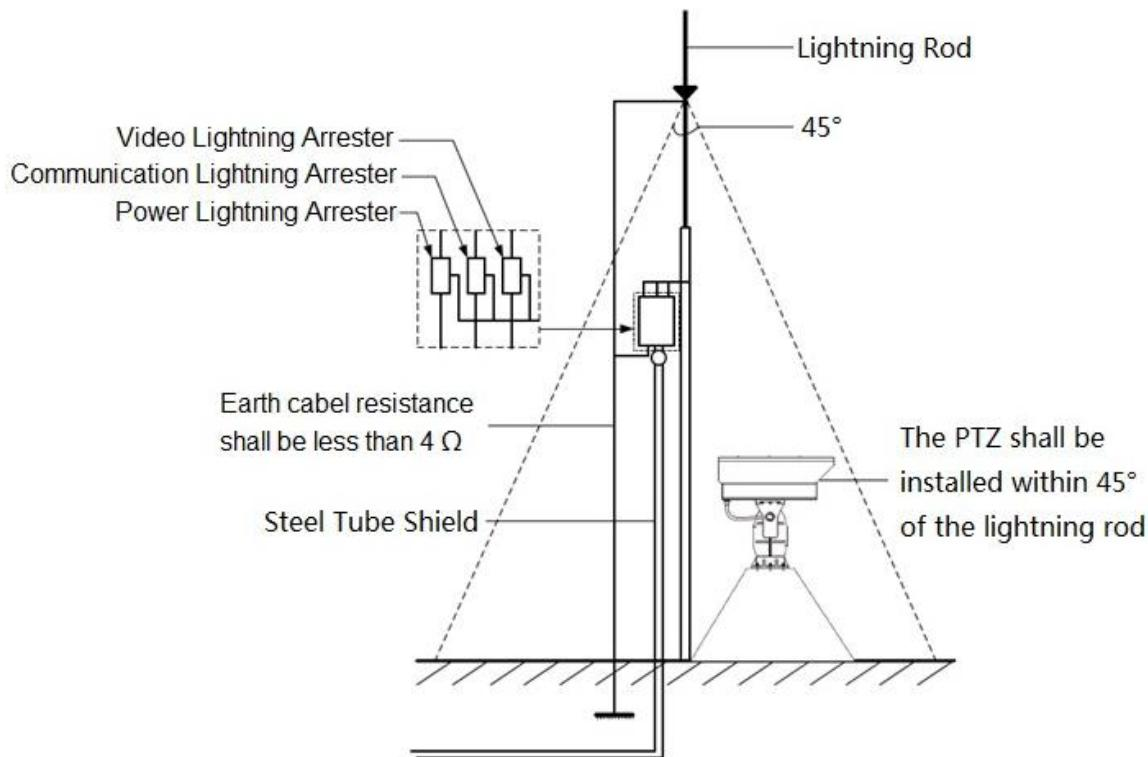

Figure 5-1
- System shall adopt equal-potential wiring. The earth device shall meet anti-jamming and at the same time conforms to your local electrical safety code. The earth device shall not short circuit to N (neutral) line of high voltage power grid or mixed with other wires. When connect the system to the earth alone, the earth resistance shall not be more than  $4\Omega$  and earth cable cross-sectional area shall below 25 mm2. See Figure 5-1.